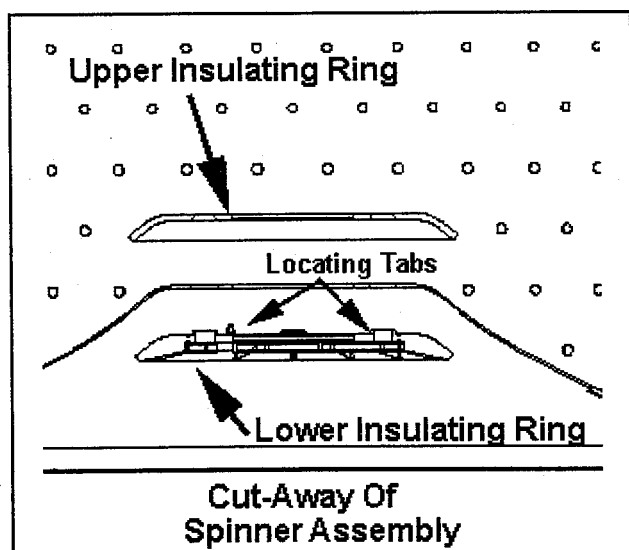

Figure 5-13
9. Depress the four (4) tabs that hold the lower insulating ring to the bottom of the spinner and remove. (*Figure 5-12*) These four (4) tabs are not necessary for correct machine operation. These tabs are used to assist in the manufacturing process. If one or more break during removal, the part is still functional. (*See Figures 5-13 thru 5-14*)